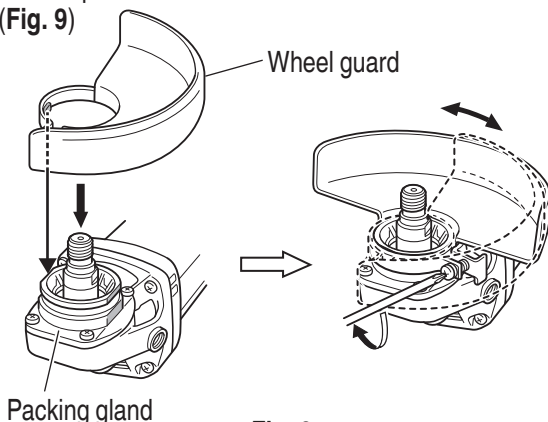

Fig. 9
3. Fitting and adjusting the wheel guard (**Fig. 9**)